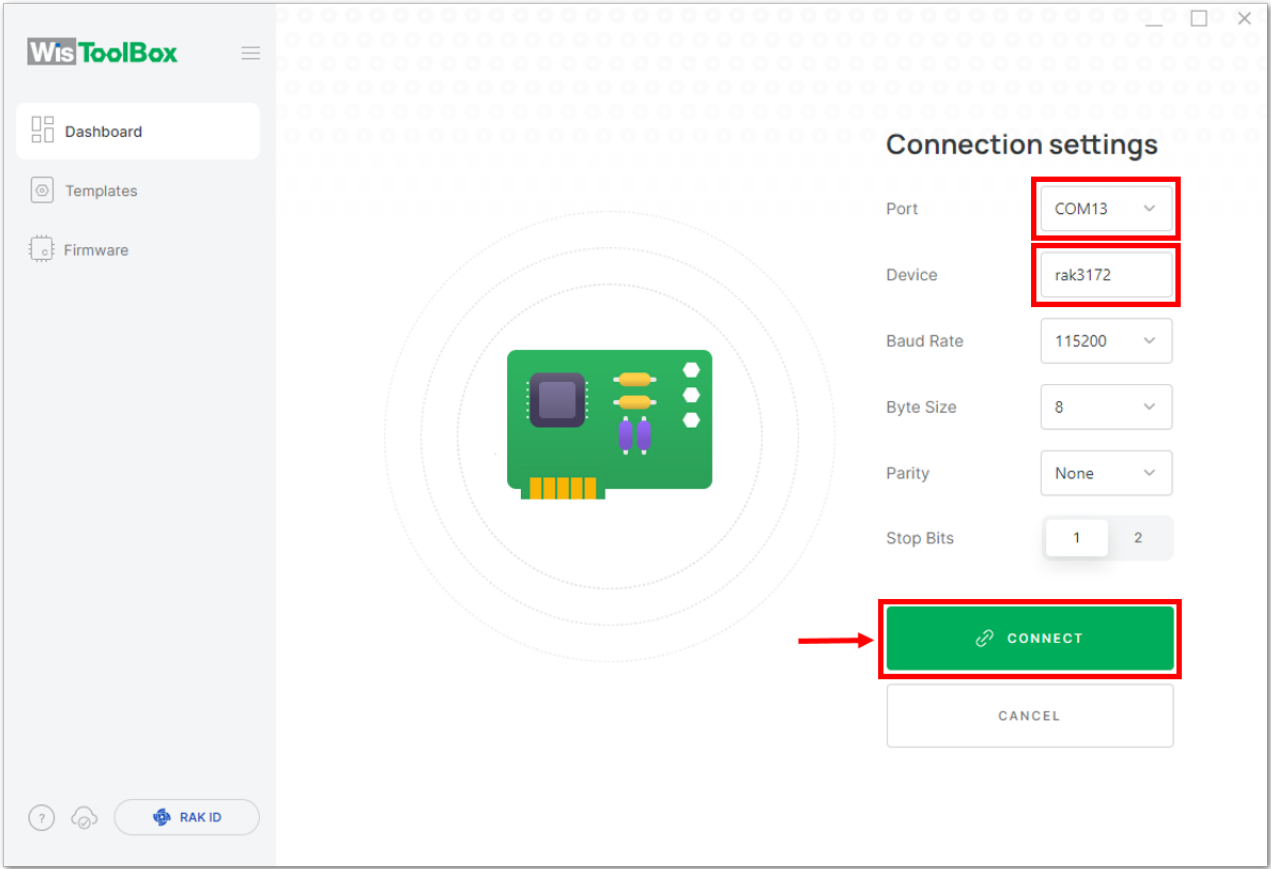

Figure 74: Setting up your device
3. Then select your target port where your **RAK3172** is connected. Once recognized, click **CONNECT** as shown in **Figure 74**.